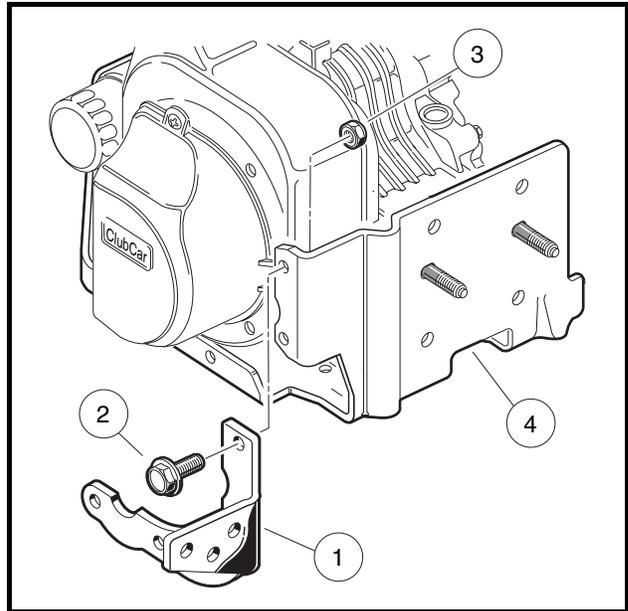

Figure 12-25 Stiffener Removal
5. Cut the wire tie holding the wire harness to the stiffener (1) and remove the bolts (2) and nuts (3) securing the stiffener to the mounting plate (4) (**Figure 12-25, Page 12-25**).
15. Install the stiffener with four hex-head bolts and lock nuts. Tighten the hardware to 23 ft-lb (30.5 N·m) (**Figure 12-25, Page 12-25**).
17. Secure the wire harness to the stiffener with a wire tie. Place the wire tie through the lower hole at the back of the stiffener (**Figure 12-25, Page 12-25**).